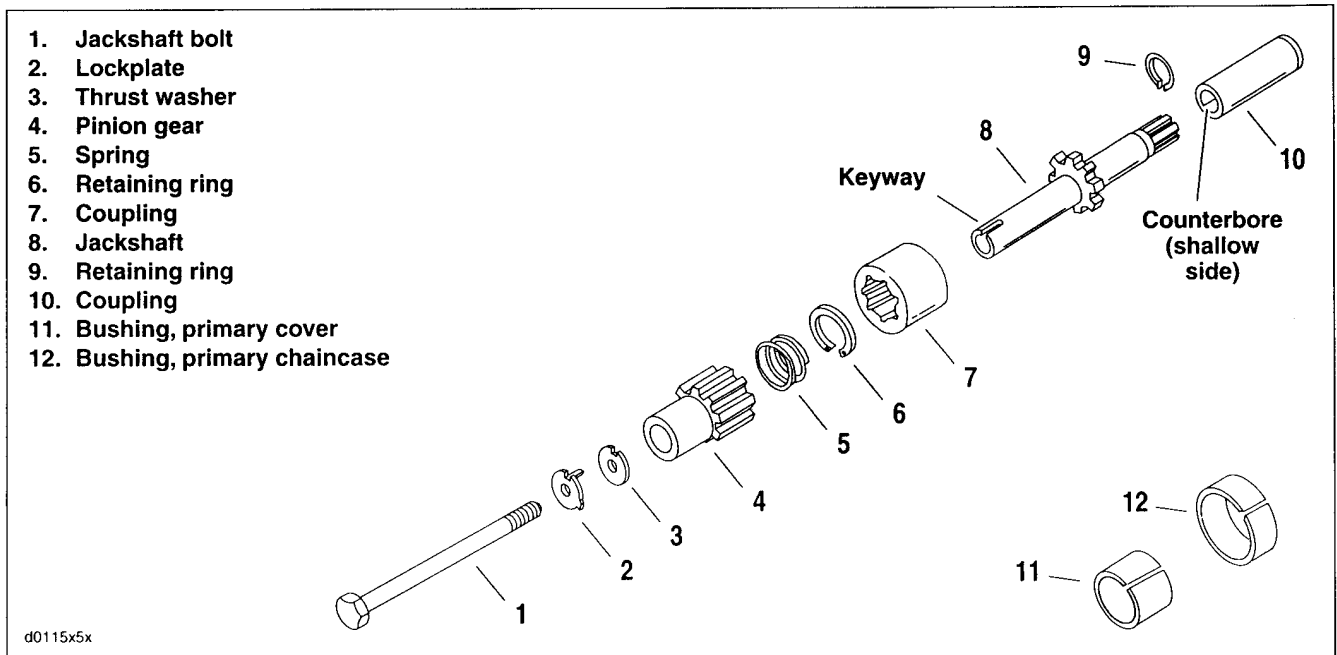

Figure 5-28. Starter Jackshaft
See Figure 5-28. If you are only going to service the items from the bolt through the spring (1-5), it is not necessary to remove clutch.
6. See Figure 5-28. Remove pinion gear (4) from jackshaft.
7. Remove coupling (7) and spring (5). Spring and retaining ring (6) are inside coupling. Replace retaining ring if necessary.
1. See Figure 5-28. If removed, insert retaining ring (9) in coupling (10). Install coupling on starter output shaft with counter bore facing jackshaft. Shallow side of coupling faces jackshaft splines. Continue with 5.4 STARTER installation.
2. Place spring (5) inside coupling (7).
3. Install pinion gear (4) on shaft.
4. Place lockplate (2) and thrust washer (3) on bolt (1). Insert bolt into jackshaft (8).
5. Install retaining ring (6) if removed, on shaft. Slide jackshaft assembly into position in inner primary.